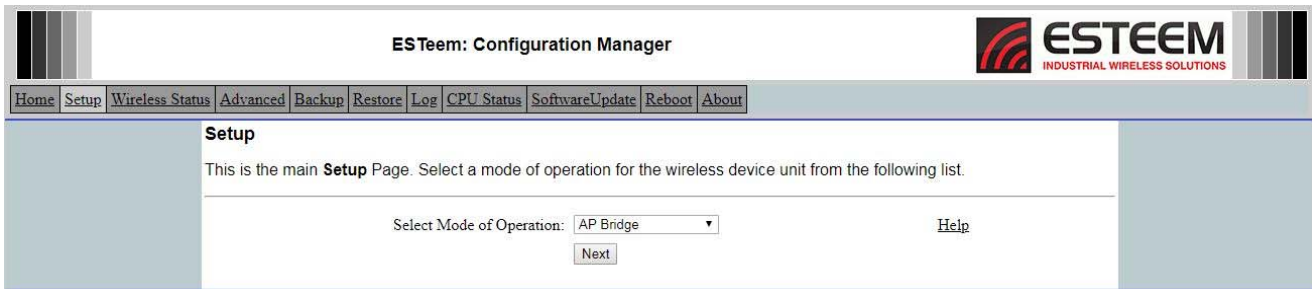

Figure 11: Mode of Operation
- Select the Setup tab from the menu. This first menu will set the mode of operation for the Horizon radio. For this example, use the drop-down arrow and select AP Bridge (Figure 11). Press the “Next” button to continue.